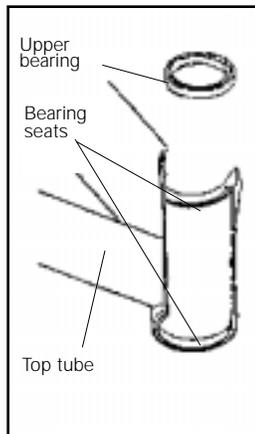

Fig. 36
2. Use a sharp knife to scrape off any residual adhesive from the bearing seat surfaces (Fig. 36).